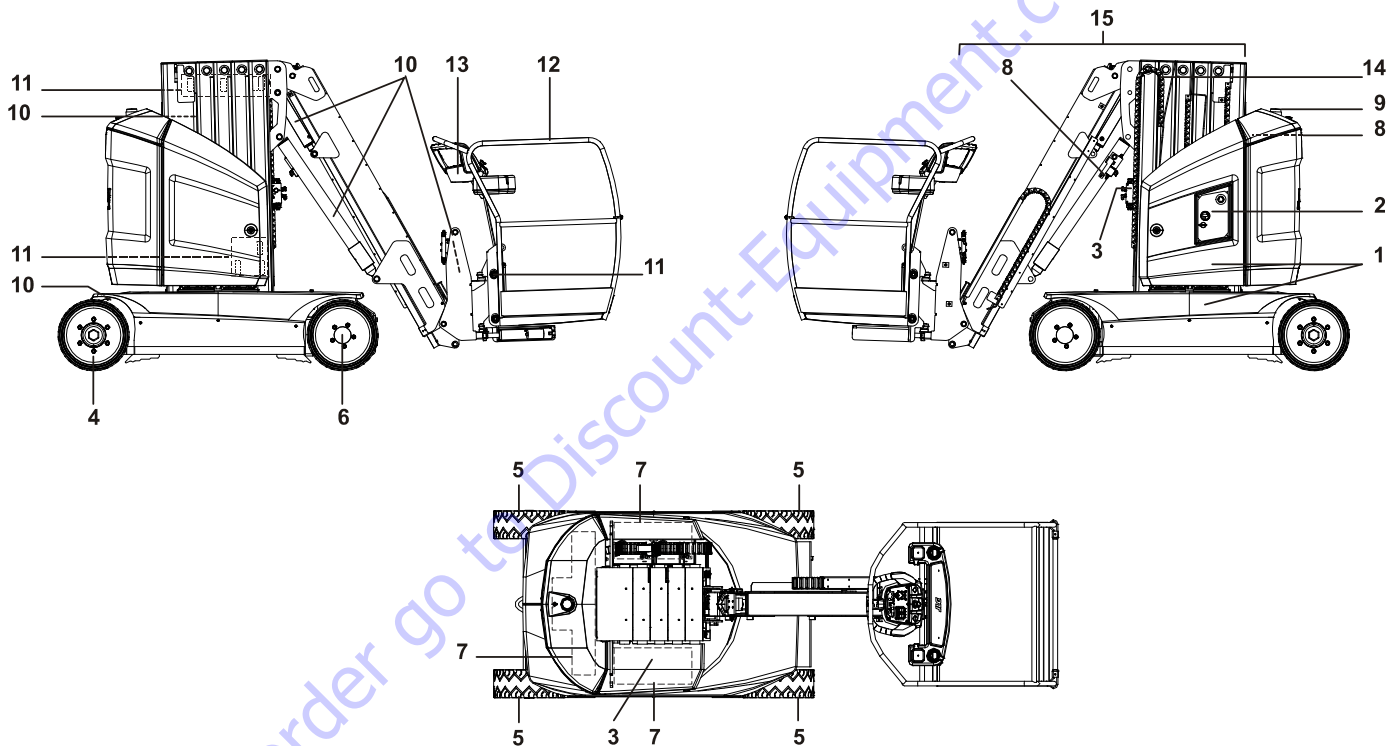

Figure 2-1. Daily Walk-Around Inspection
5. **“Walk-Around” Inspection** – Refer to Figure 2-1.
Begin the “Walk-Around Inspection” at Item 1, see Figure 2-1. Continue checking each item in sequence for the conditions listed in the following checklist.